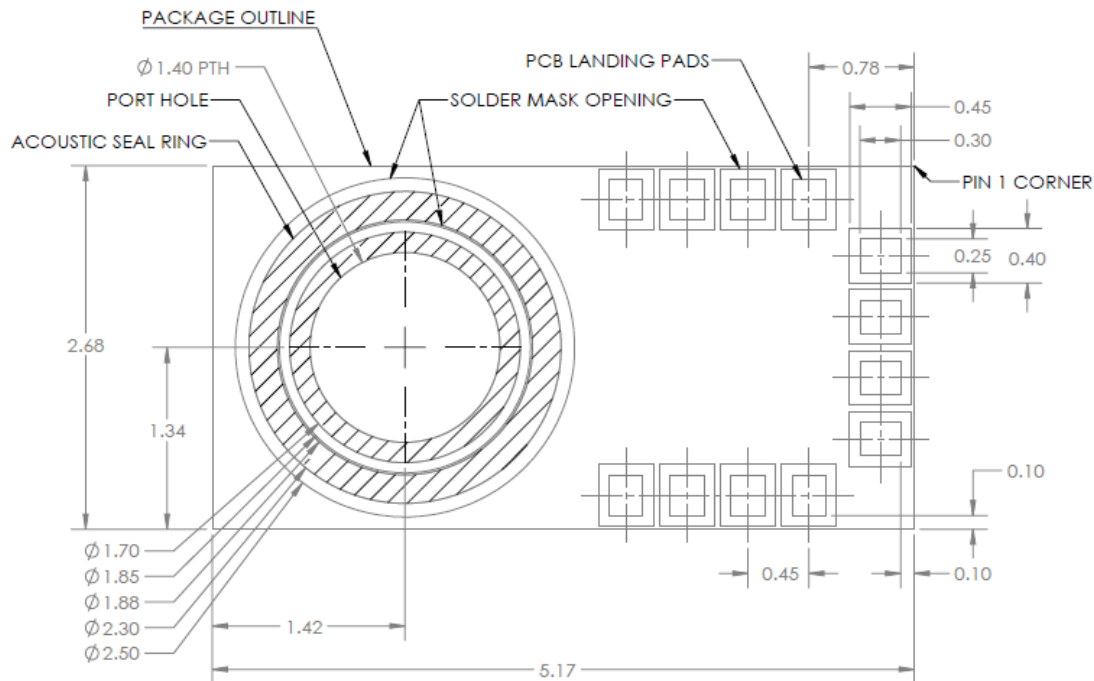

Figure 5. Recommended SMT dimensions for solder mask and PCB land pads
- PCB land height and width should be equal the transceiver pad height and width (Figure 5)
- Solder mask opening should exceed PCB land height and width by 0.1mm (Figure 5)